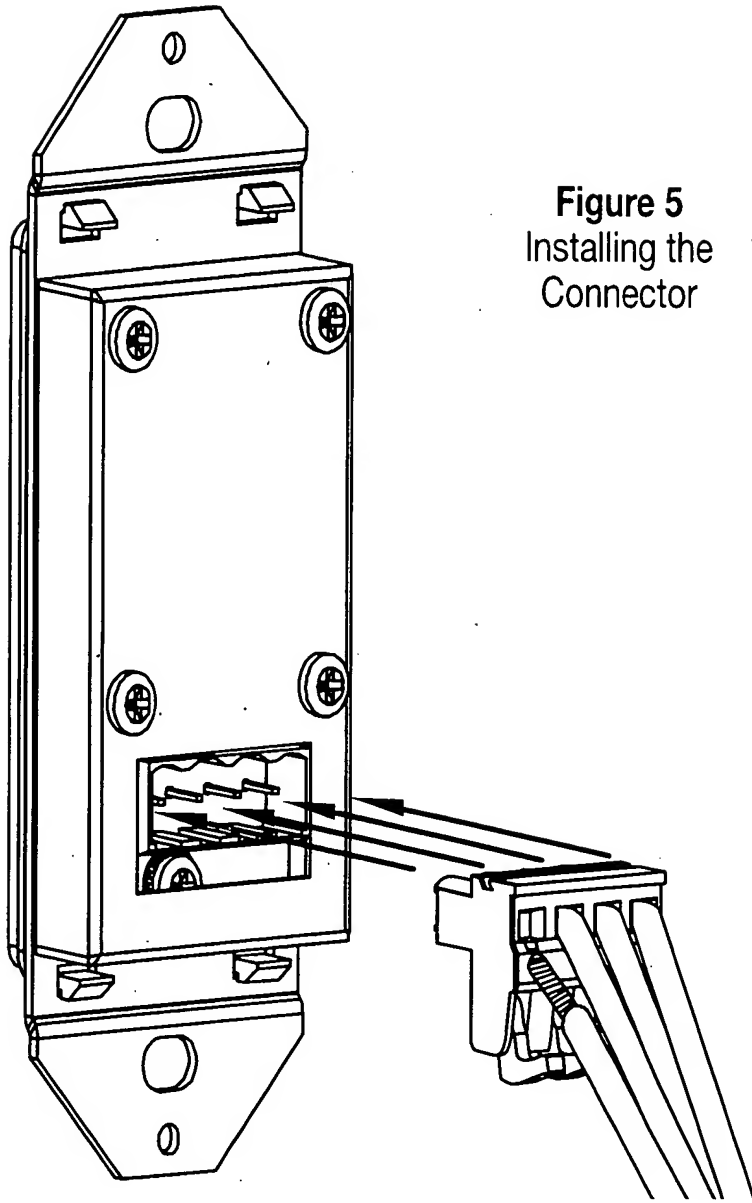

Figure 5
4. Insert each wire into the appropriate hole on the removable connector plug, and snap the locking tab down. To help you, the connector plug is keyed. Insert the smooth side of the connector plug into the smooth side of the socket. Don't force the scalloped side of the connector plug into the smooth side of the socket. (Figure 5)